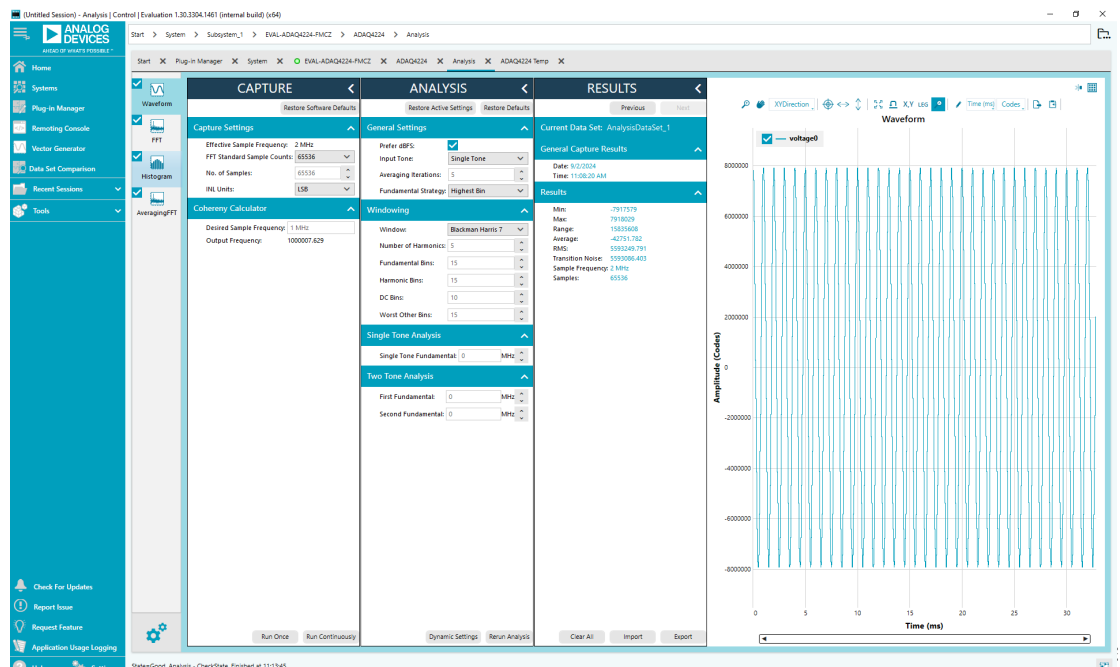
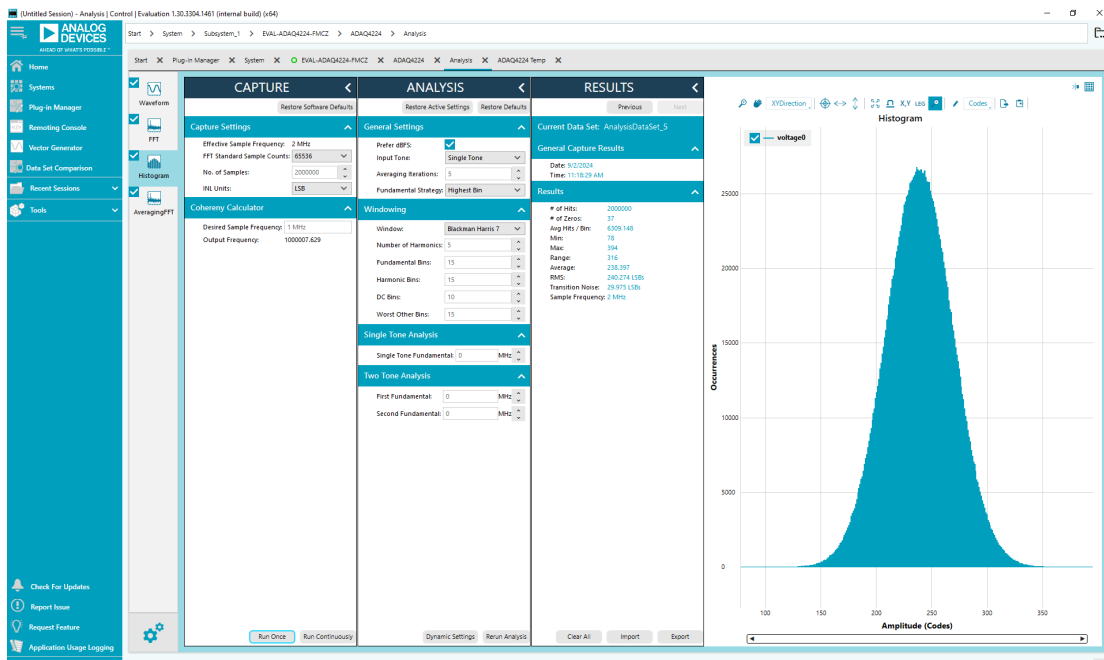

Figure 13. Analysis Tab, Waveform Display (1 kHz, -0.5 dBFS Input Signal)
Figure 15. Analysis Tab, Histogram Display (Grounded Inputs)
6. Click **Proceed to Analysis** button to open Analysis tab. In the Analysis tab, the data capture displays as a waveform, an FFT, and in a histogram, as shown from Figure 13 to Figure 15.
The **RESULTS** pane shows the relevant performance calculations specific to the selected capture tab whether it is in waveform, FFT, or in histogram. For more details, see the **RESULTS** pane from Figure 13 to Figure 15.
The Waveform tab displays the discrete data vs. time with the results, as shown in Figure 13.
The Histogram tab contains the Histogram graph and the **RESULTS** pane, as shown in Figure 15. The **RESULTS** pane displays the information related to the DC performance. The Histogram graph displays the number of hits per code within the sampled data. This graph is useful for DC analysis and indicates the noise performance of the device.